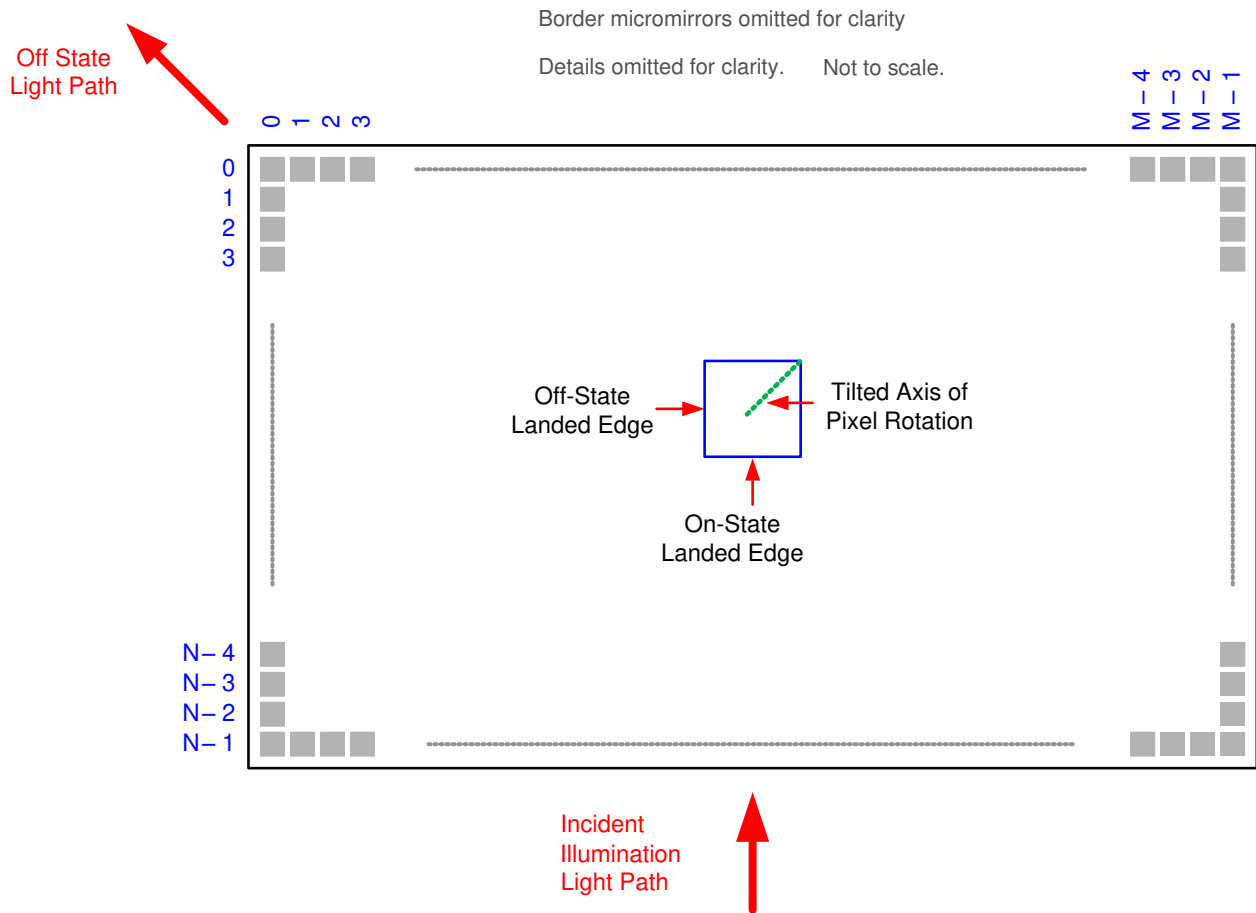

Figure 6-9. Micromirror Landed Orientation and Tilt
- (1) Limits on variability of micromirror tilt angle are critical in the design of the accompanying optical system. Variations in tilt angle within a device may result in apparent nonuniformities, such as line pairing and image mottling, across the projected image. Variations in the average tilt angle between devices may result in colorimetric and system contrast variations.
- (2) See Figure 6-9.
- (3) An out-of-specification micromirror is defined as a micromirror that is unable to transition between the two landed states within the specified Micromirror Switching Time.